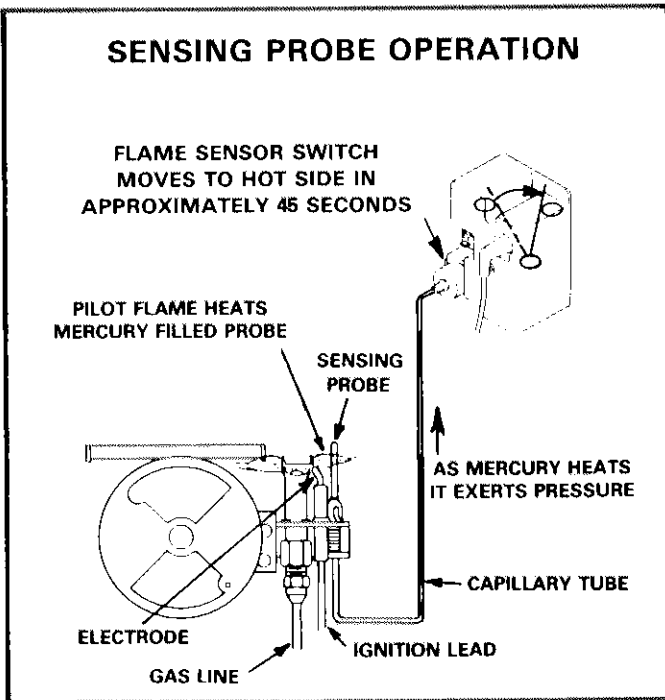

FIGURE 3
C - Sensing Probe System Operation (Figure 3)
- 2 - When the pilot is lit and the flame is detected, sparking ceases. The pilot burner flame heats up the sensing element to move the flame switch to the hot side (Figure 3). This energizes the main valve relay and the pilot valve solenoid remains energized by its hold coil. Main gas now flows and is ignited by the pilot flame. The system is now in a running mode.